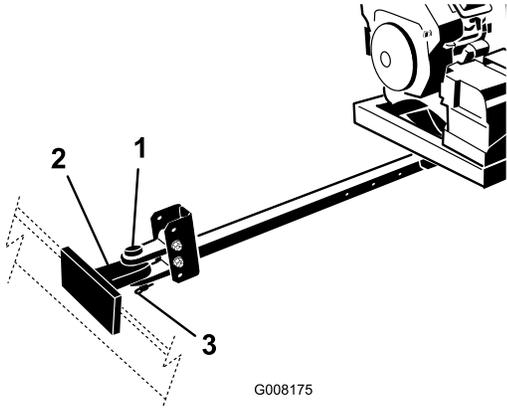

Figure 5
4. Connect the blower clevis hitch to the tow vehicle hitch with the hitch pin and clevis (Figure 5).